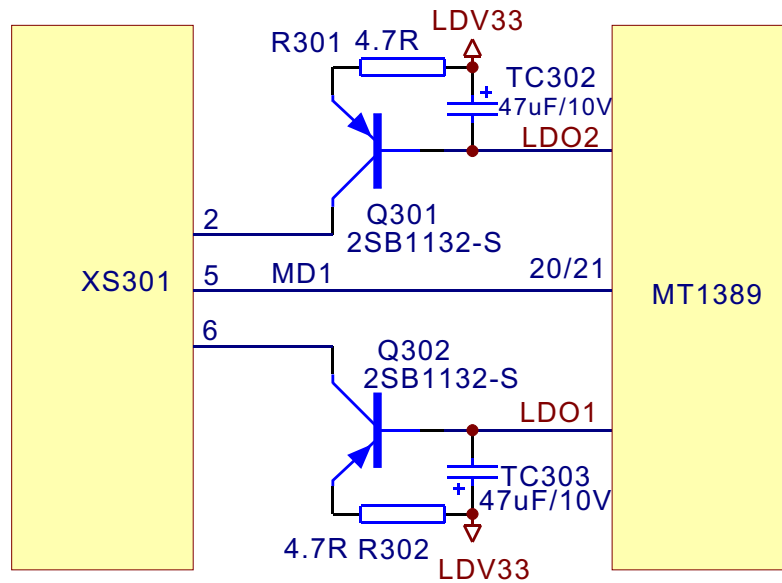

Figure 3.2.3.1 Laser power control circuit diagram
1. Laser power control circuit is shown in the figure 3.2.3.1: